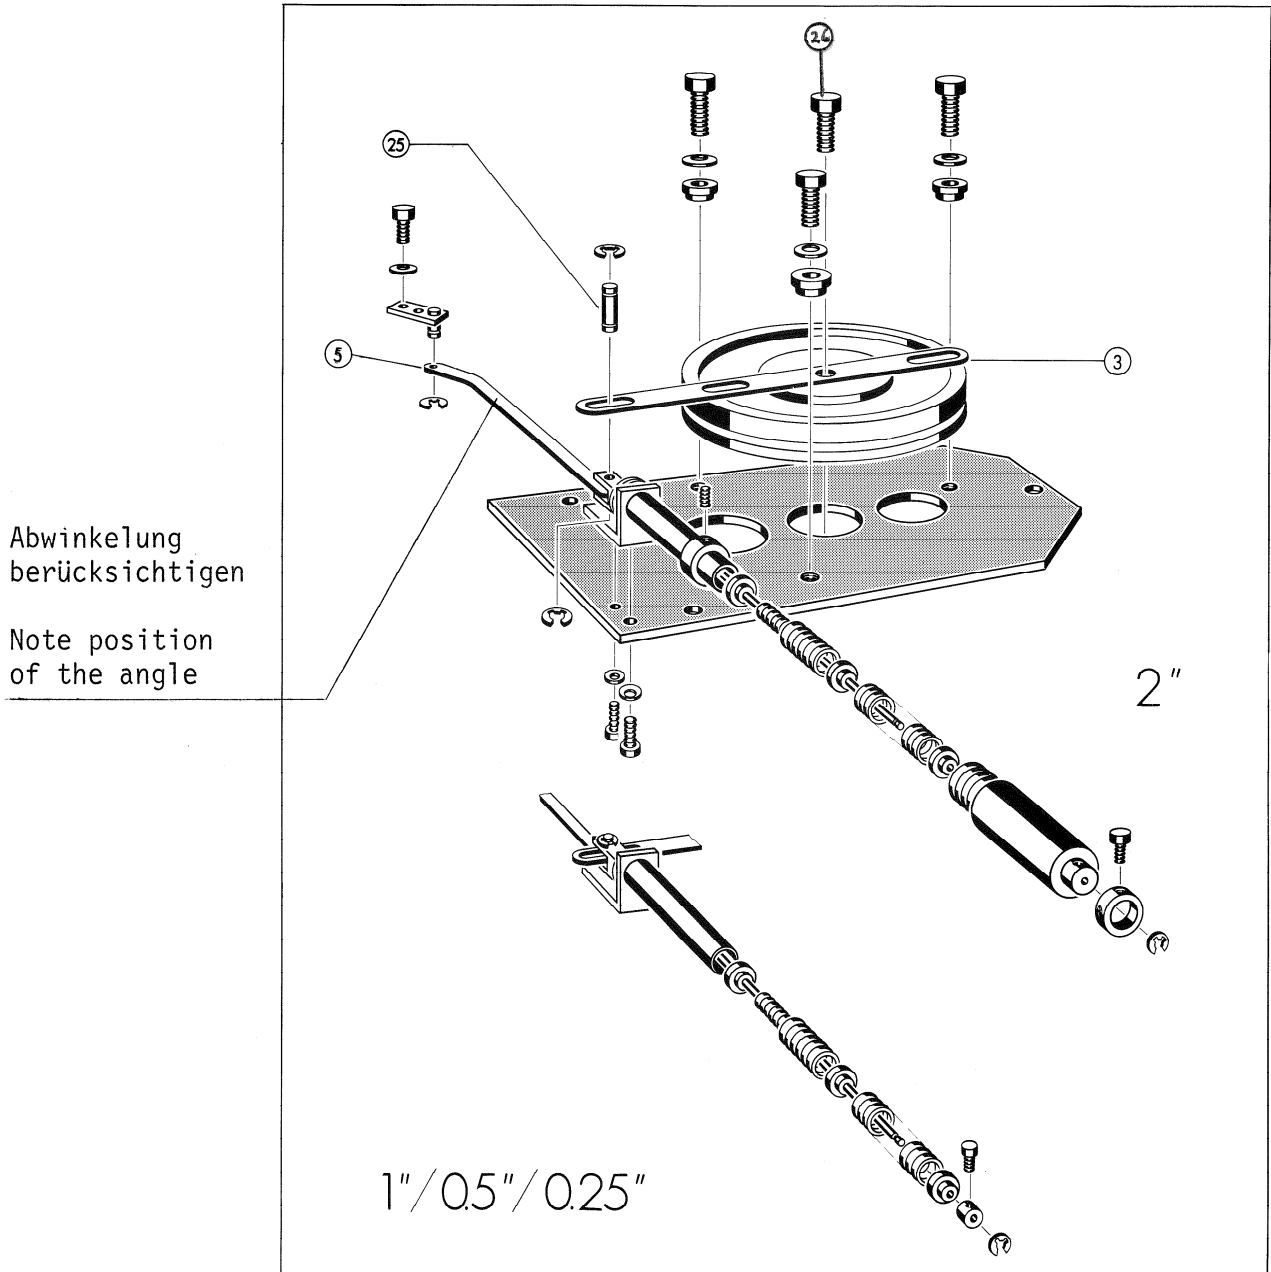

Fig. 6
Achse (25) ausfahren und Federelement austauschen mit 1/2"-Version. (Fig. 6)
Remove the axle (25) (see figure 6) and replace the spring unit by the spring unit of a 1/2" version. (Fig. 6)
Make sure that the linking lever (3) (see figure 6) for the dashpot is situated on top of the rod (5), when putting in the axle (25).
The angular part of the rod must point outward (see figure 6).